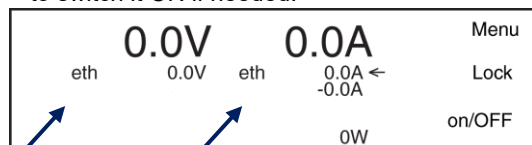

Figure 10.3: For Ethernet programming, the text 'eth' must be seen before the setting(s) that is/are in 'remote mode'.
- For example, when programming via Ethernet, on the second line of the display, before both the set values the text 'eth' must be seen, see Figure 10.3.